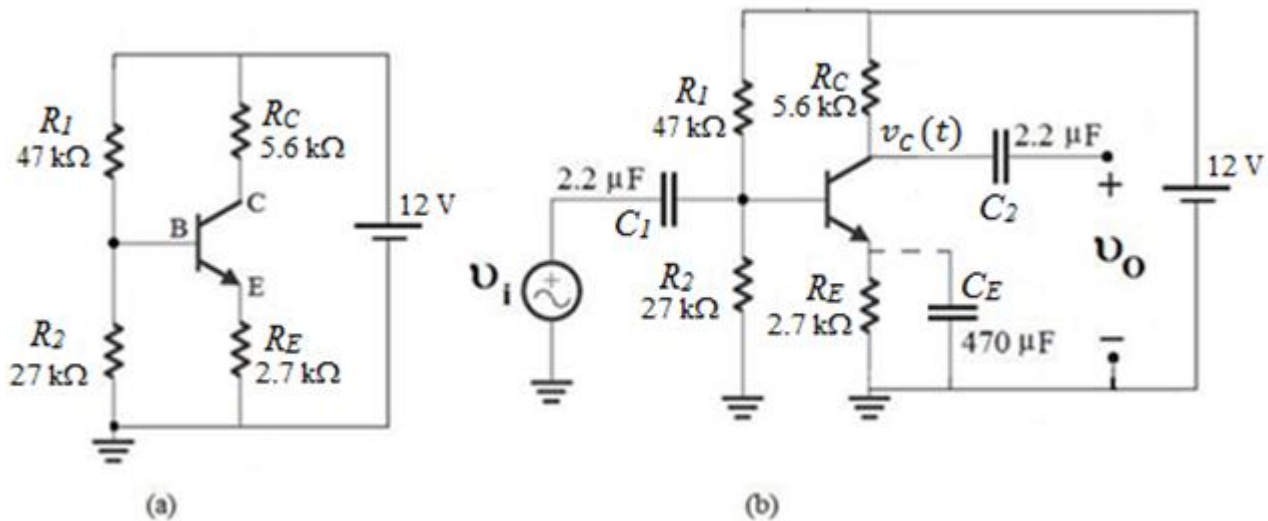

Figure 1 (a) The CE amplifier circuit to measure the dc voltages and currents. **(b)** The complete amplifier.
1. Connect the circuit shown in Fig 1.(b), initially without C_E .